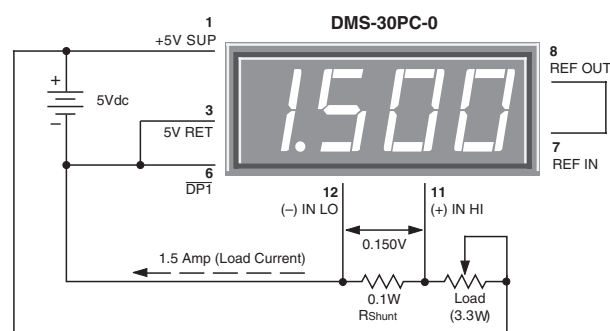

Figure 9. Basic DC Ammeter Circuit
7. Digital Ammeter: Digital ammeters are finding ever-increasing usage because analog-style ammeters (moving-vane types) now cost roughly the same as their digital counterparts. Additionally, analog ammeters are not nearly as rugged as modern digital panel voltmeters. Figure 9 illustrates a typical ammeter application. The circuit uses a $\pm 200mV$ input meter